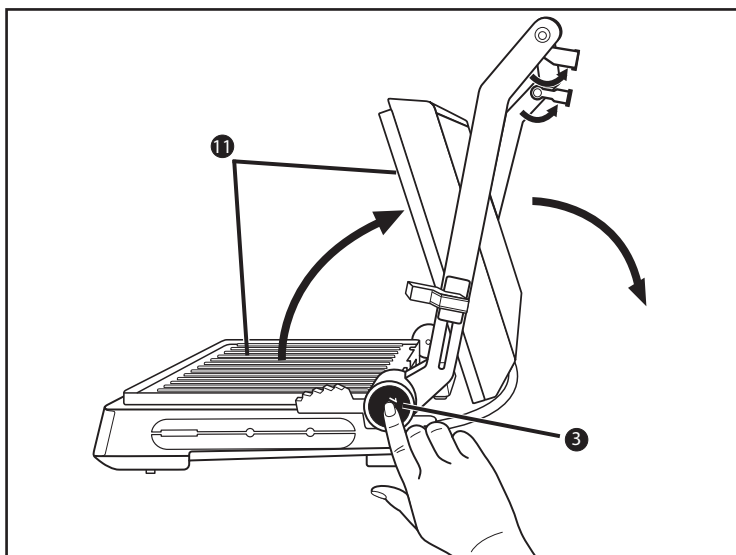

Fig. 1
- 1) Fold out both feet ① (fig. 1).
- 2) Press the unlocking button 180° ③ (fig. 1) and open the appliance lid until both hotplates ⑪ can be used as a table grill.